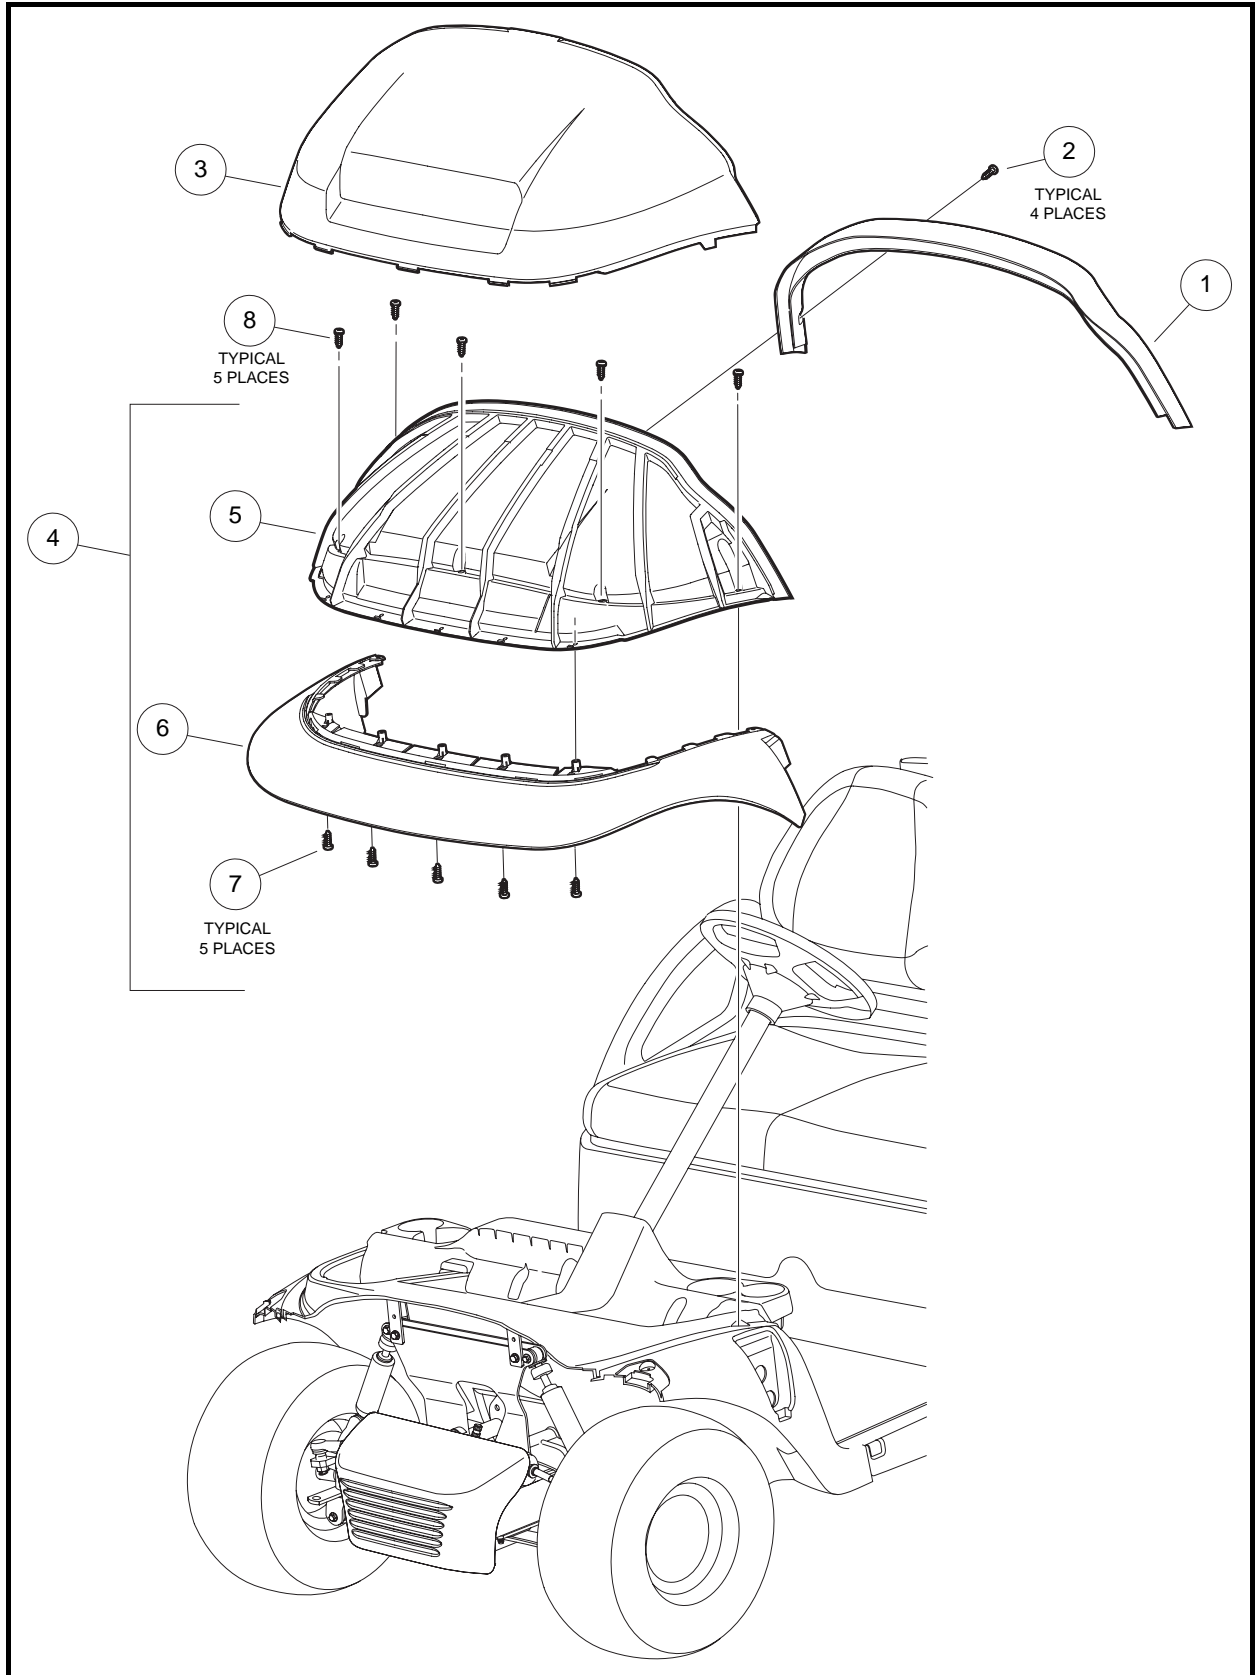

Figure 4-1 Front Body
1. Remove the four screws (2) and pull the brow cap (1) from the brow and fascia assembly (4) (**Figure 4-1, Page 4-3**).
2. Pull the front beauty panel (3) up and away from the brow and fascia assembly (4), disengaging the snap tabs.
4. Remove the five screws (8) and lift the brow and fascia assembly (4) from the front underbody.
5. Remove the five screws (7) to separate the front fascia (6) from the brow (5).
1. Install fascia (6) to brow (5) with five screws (7). Tighten screws to 3.3 ft-lb (4.5 N-m) (**Figure 4-1, Page 4-3**).
2. Install brow and fascia assembly (4) to front underbody with five screws (8). Tighten screws to 1.8 ft-lb (2.5 N-m).
3. Install front beauty panel (3) over brow (5). Tabs on the forward edge of the front beauty panel should fit into slots between the fascia and the brow.
4. Position brow cap (1) to cover the edge of both the brow (5) and the front beauty panel (3). Secure brow cap (1) with four screws (2). Tighten screws to 3.3 ft-lb (4.5 N-m).